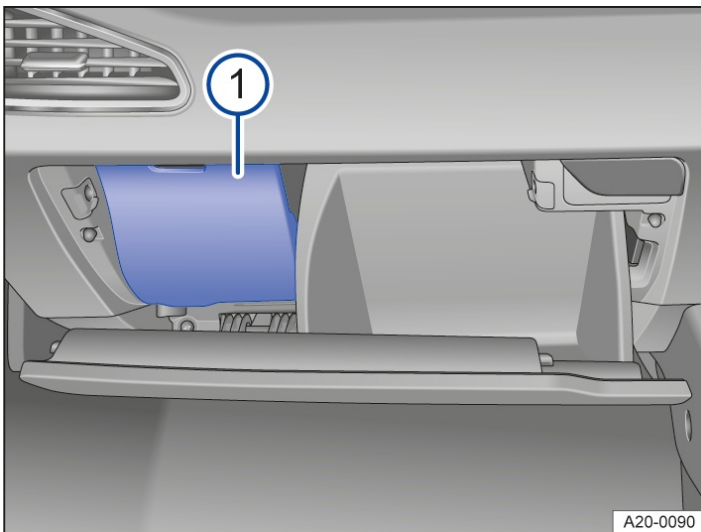

Fig. 2 Right-hand drive vehicle: fuse box cover in the dash panel on the front passenger side.
- Pull off cover from top → Fig. 2 ①.